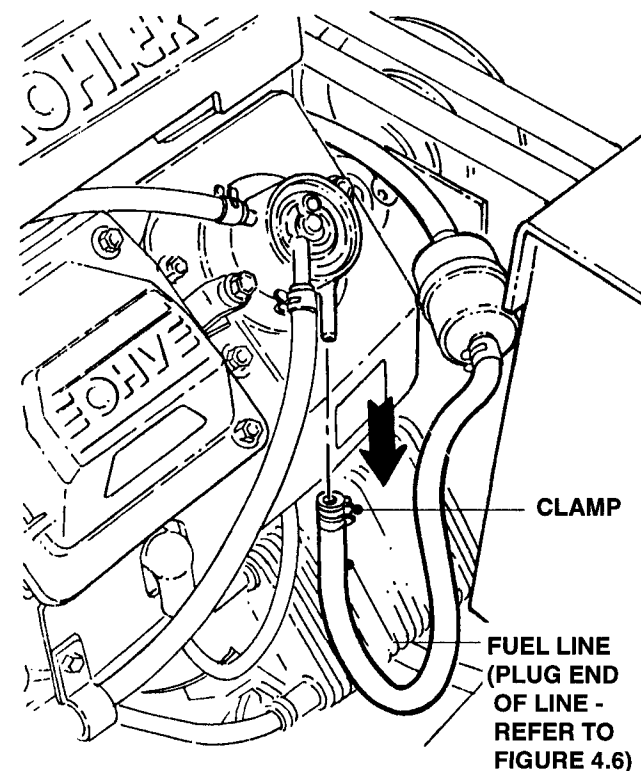

FIGURE 4.5
- F. Squeeze Fuel Line Clamp and remove Fuel Line from Engine. Plug open end of Line. See Figure 4.5.